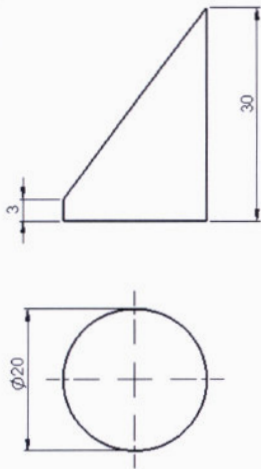

Figure 4
4. Given two views of a truncated right circular cylinder are given in figure 4. Draw full size, the following: